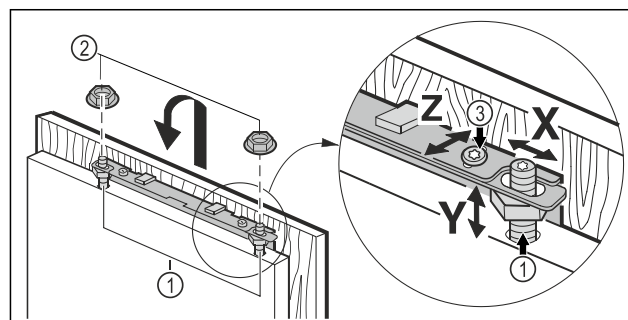

Fig. 23
- Hang the unit door on the adjustment bolts Fig. 23 (1) and screw the lock nuts Fig. 23 (2) loosely onto the adjustment bolts.
- Align the height Y and lateral inclination of the unit door: Set the adjustment bolts Fig. 23 (1) with a screwdriver.
- Tighten the lock nuts Fig. 23 (3).